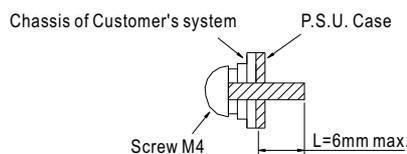

Figure 4-3 Mounting screw
- ⊙ In order to maintain a safe isolation distance from internal components, please use screws with length less than 6mm measured from the case as shown in Figure 4-3.